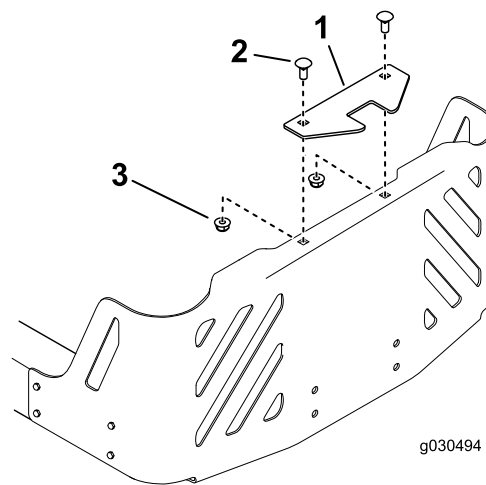

Figure 12
1. Install the stabilizer bracket to the engine guard using 2 carriage bolts (5/16 x 3/4 inch) and 2 locknuts (5/16 inch) as shown in Figure 12.